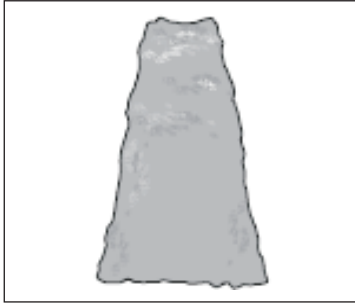

Fig. 23
**NOTE:** When shaping it is advisable to achieve a trapezoidal shape (Fig. 23). A trapezoidal cut corresponds to the natural growth of plants and results in optimal hedge growth, as it will expose more light to the lower end of the hedge.